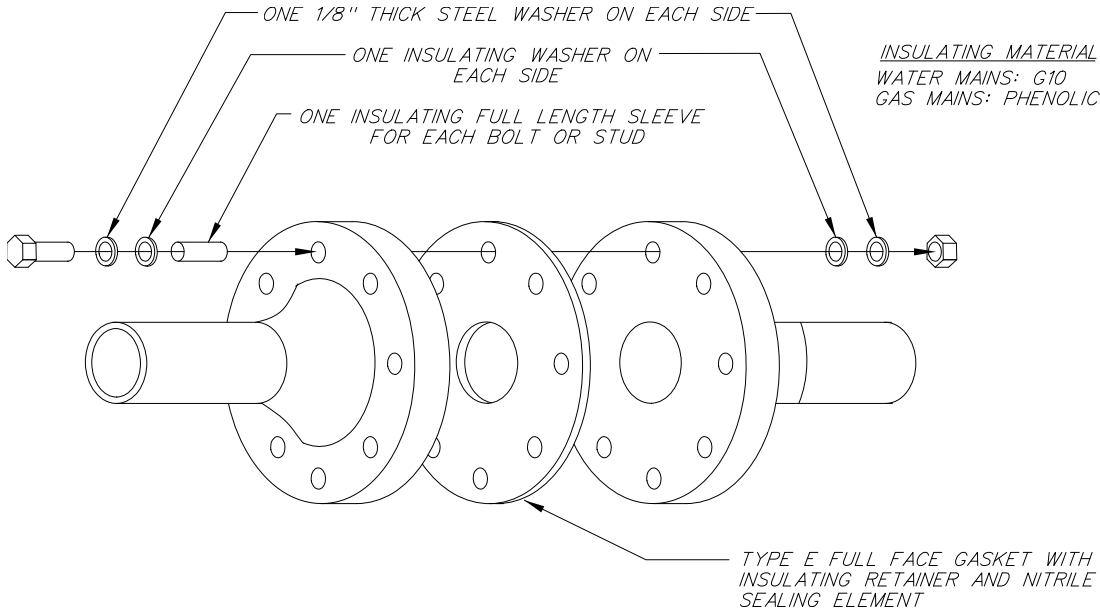

Fig. 1
**FLANGE INSULATION WITH DOUBLE INSULATING WASHERS (Fig. 1)**